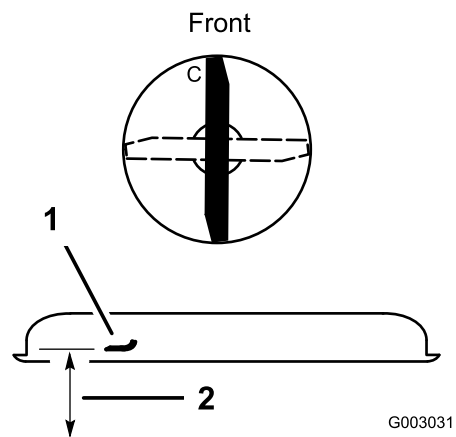

Figure 49
1. Rotate the blade until the ends face forward and backward (Figure 49).
2. Measure from a level surface to the cutting edge, position C, of the blade (Figure 49). Note this dimension.